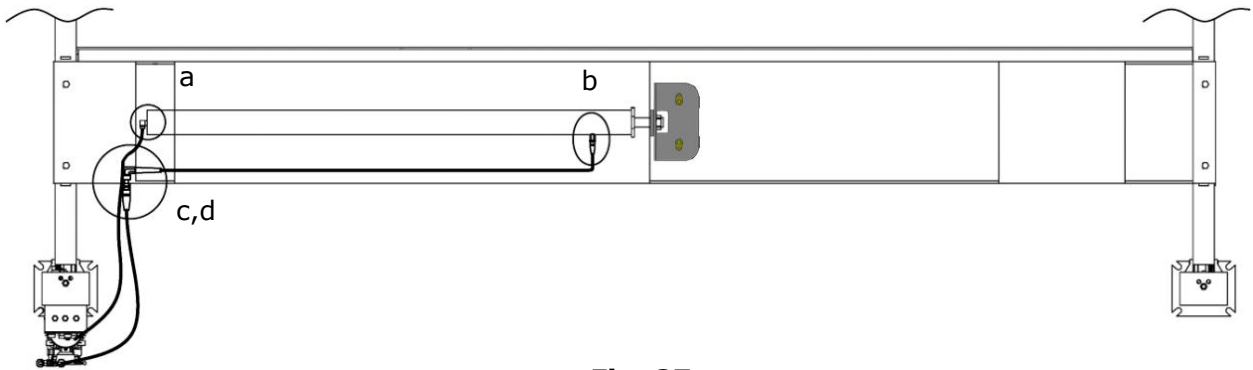

Fig. 27
2. For power unit install to the column at the side of cross beam **B** (See Fig. 27).